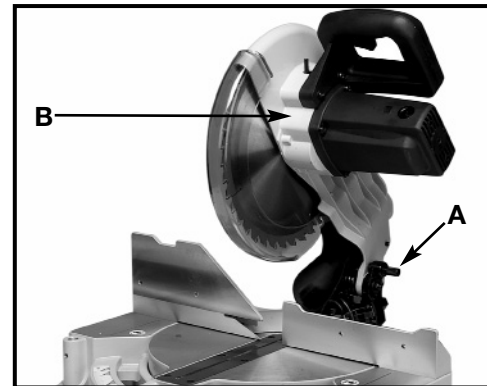

Fig. 5
5. The machine is shipped with the cuttinghead locked in the down position and the table rotated to 45° left, as shown in Fig. 3. To release the head and move it to the operating position, see **“MOVING CUTTINGHEAD TO THE UP POSITION”** and **“MOVING THE TABLE TO THE 0° CUT-OFF POSITION”** in this manual (Fig. 5 & 7).
2. Fig. 5, illustrates the lockpin (A) pulled out and the cuttinghead (B) in the up position.